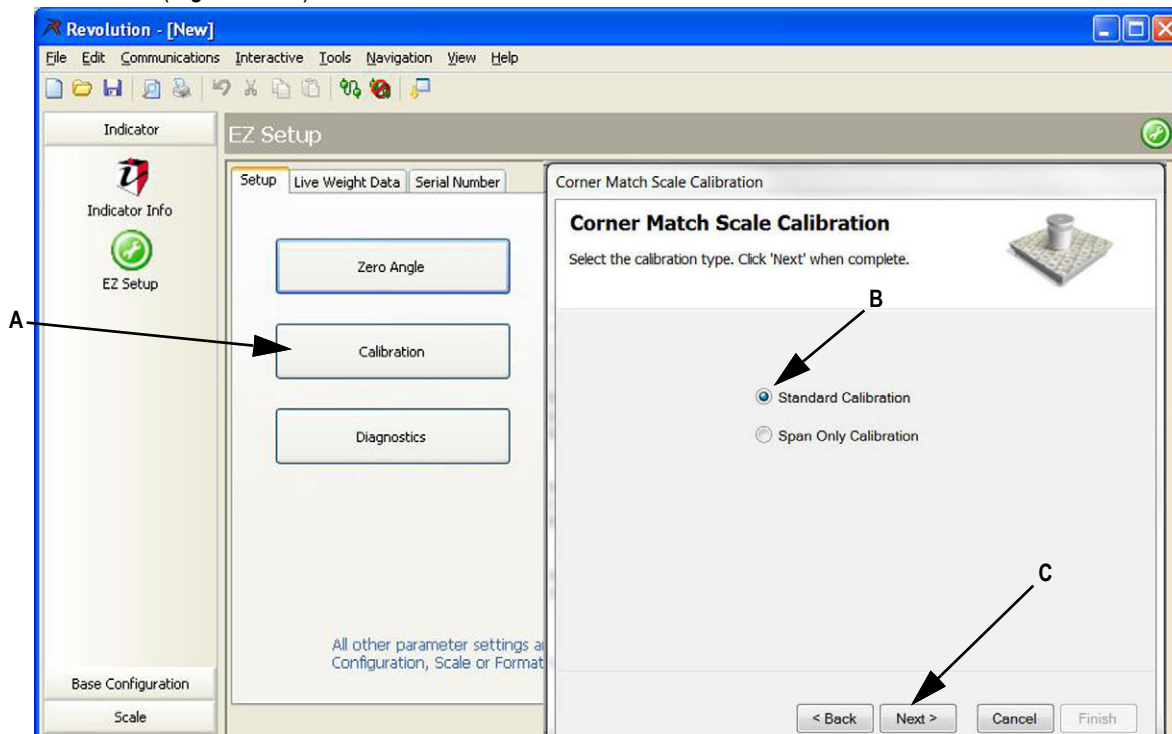

Figure 5-3. Enter Calibration
3. In set-up select **Calibration** (Figure 5-3 A).
4. Select *Standard Calibration* (Figure 5-3 B)
5. Press **Next** (Figure 5-3 C).